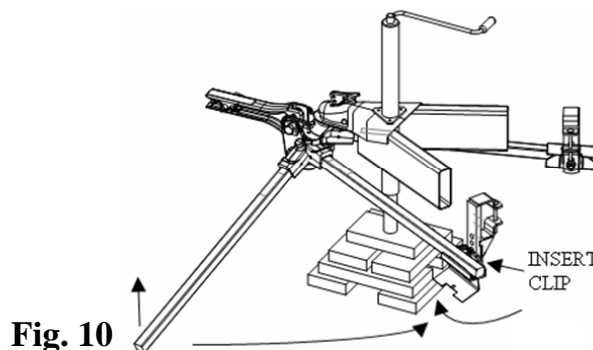

Fig. 10
- Swing pad hanger cover (X) over the pad hanger and insert the spring clip. Fig. 10